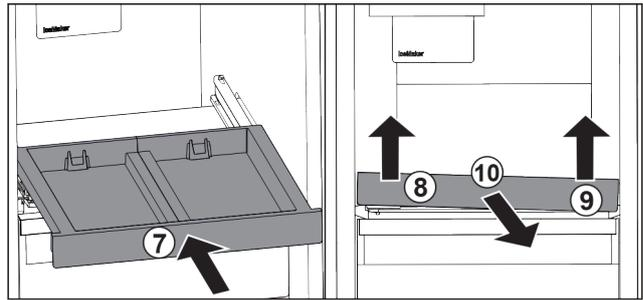

Fig. 43
- ▶ Slide in the pull-out board. Fig. 43 (7)
- ▶ Lift the pull-out board on the front left. Fig. 43 (8)
- ▶ Lift the pull-out board on the front right. Fig. 43 (9)
- ▶ Take out the pull-out board to the front. Fig. 43 (10)